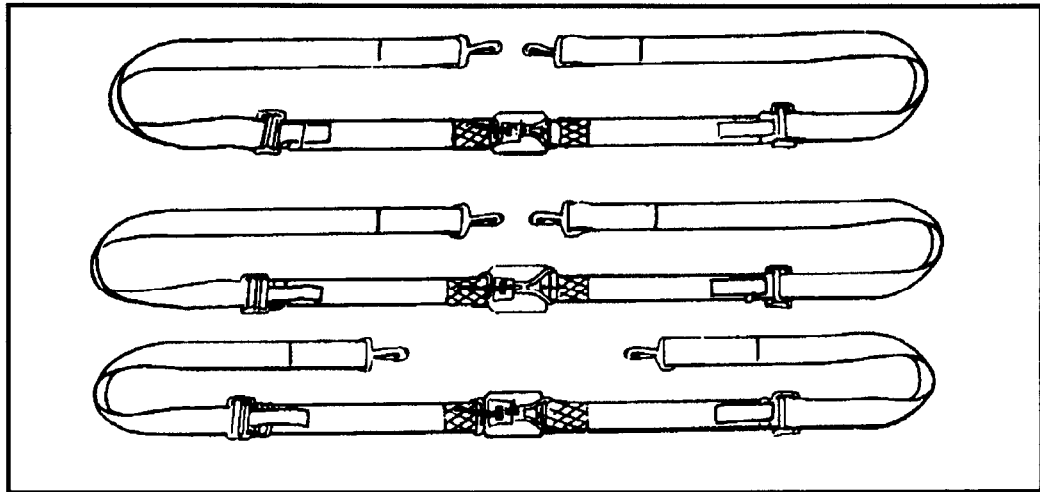

Figure 17-17. Modified C-3A troop safety belts.
a. The three modified C-3A troop-type safety belts, using the cargo floor tie-down fittings, restrain parachutists in groups of two and three by a single safety belt (Figure 17-17, page 17-18).